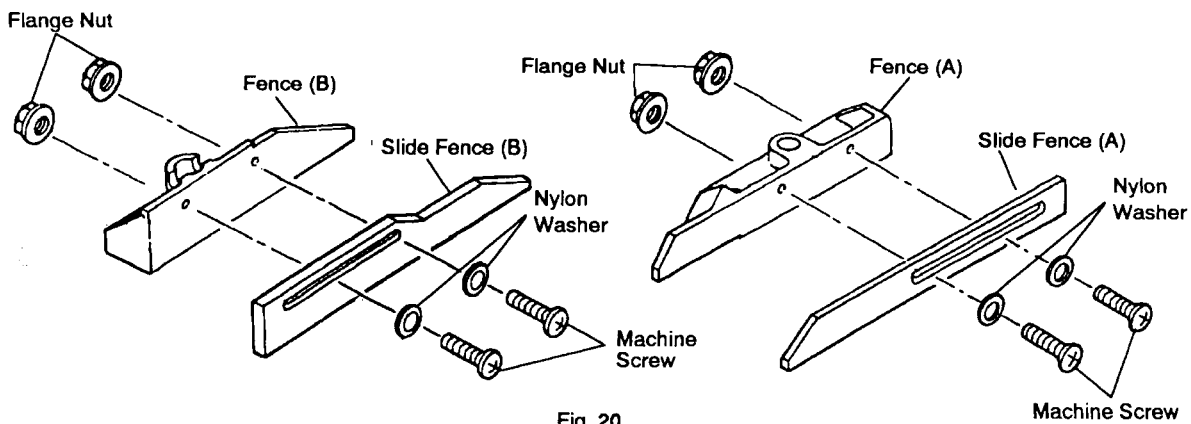

Fig. 20
- (1) Set slide fence (A) and slide fence (B) on fence (A) and fence (B) of the base.
- (2) To attach use the four machine screws with nylon washers and flange nuts as shown in Fig. 20
- (3) Adjust slide fence (A) and slide fence (B) to stabilize the workpiece. Adjustable range of slide fence (A) and slide fence (B) is from 0 to 3-3/4" (0 to 95mm)).
- (4) Confirm the position of slide fence (A) and slide fence (B) on fence (A) and slide fence (B) with four machine screws tightly so slide fence (A) and slide fence (B) do not move (see Fig. 20).